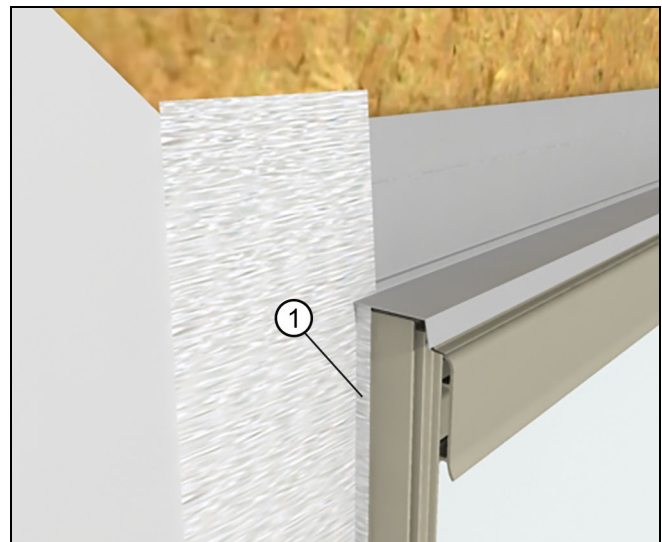

Figure 56
3. Lap vertical strips of flashing onto the unit or casing and out over the weather resistive barrier. Make small cuts at the head jamb to allow the flashing to fold back onto the exterior. See Figure 56.